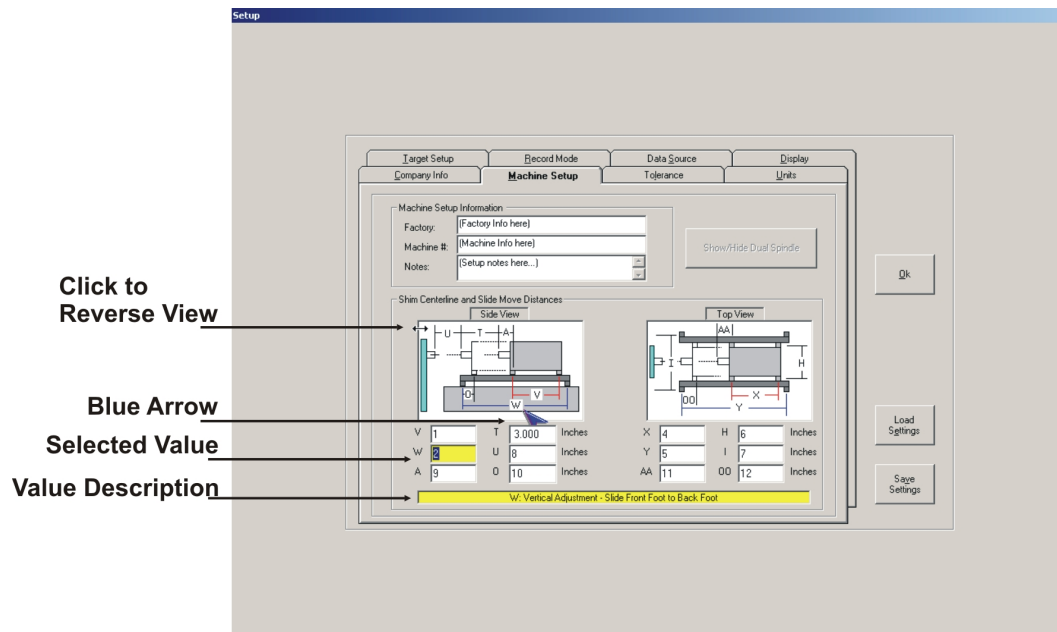

Figure 15 – Machine Setup Screen
- To obtain a description of each lettered value, click either on the letter itself within the graphic or in the box next to the corresponding letter below. The box turns yellow and a large blue arrow identifies the selected letter. A detailed description of the value displays at the bottom of the screen (see Figure 15).